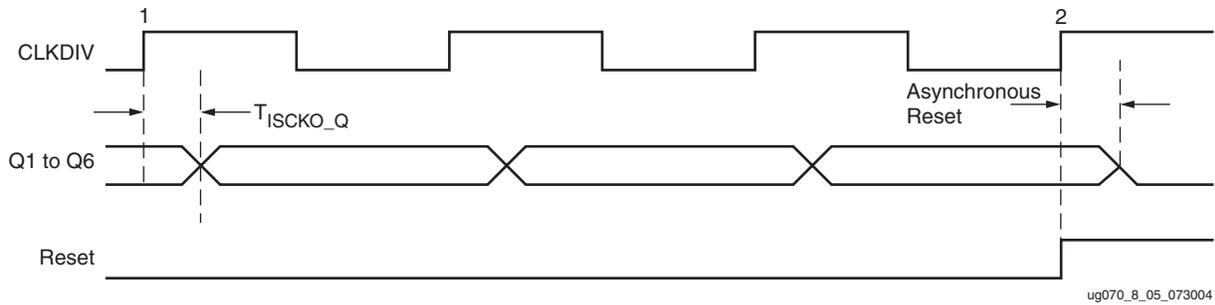

Figure 8-5: ISERDES Output Data Timing Diagram
In the timing diagrams of Figure 8-4 and Figure 8-5, the timing parameter names change for different modes (SDR/DDR). However, the names do not change when a different bus input width, including when two ISERDES are cascaded together to form 10 bits. In DDR mode, the data input (D) switches at every CLK edge (rising and falling).
Figure 8-5 illustrates an ISERDES timing diagram for the output data from the ISERDES.